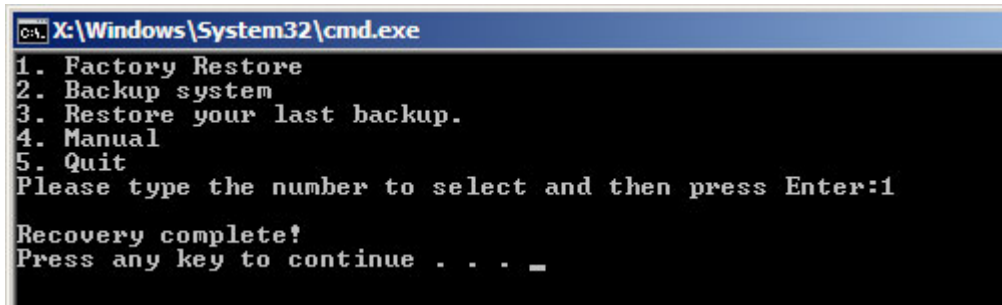

Figure B-37: Recovery Complete Window
Step 3: The screen shown in **Figure B-37** appears when completed. Press any key to reboot the system.